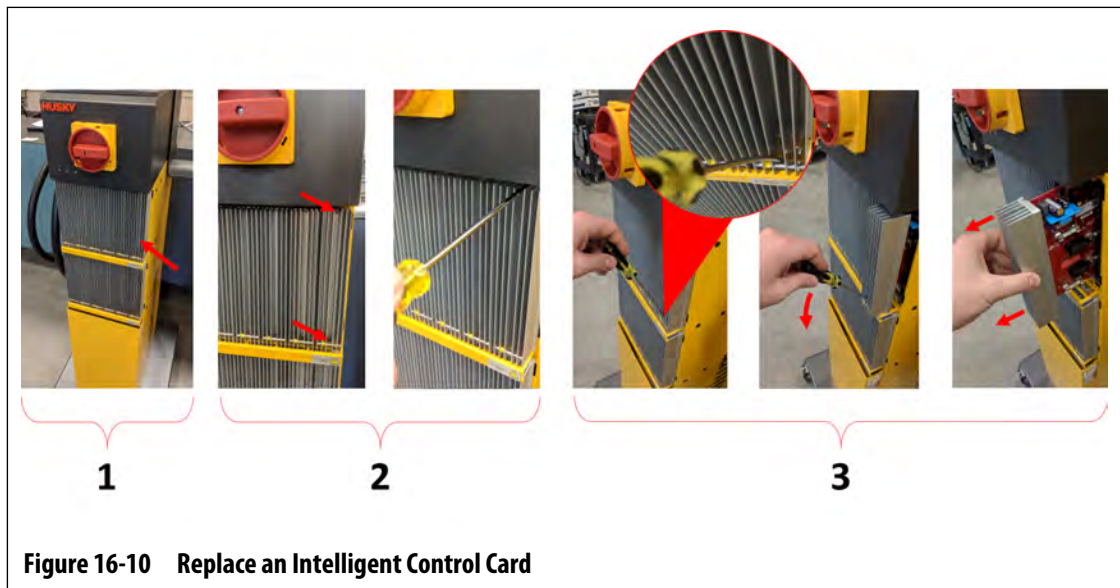

Figure 16-10 Replace an Intelligent Control Card
1. Find the Card Cage that contains the ICC² or ICC³ that has the fault. Refer to number 1 in Figure 16-10.
4. Loosen the upper and lower slotted fasteners on the heat sink from the female threads in the cabinet. Refer to number 2 in Figure 16-10.
5. Slide a screwdriver between the silver post and the ledge on the cabinet and gently pry the board out. Refer to number 3 in Figure 16-10.